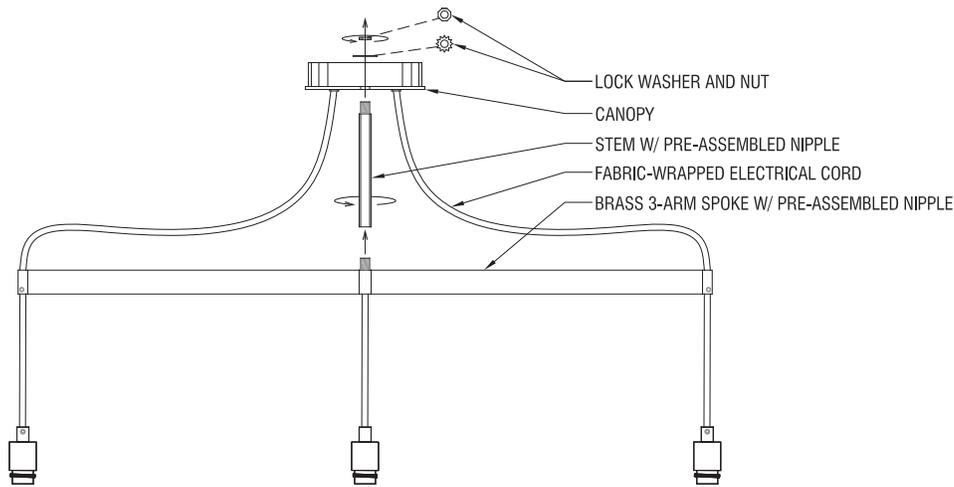

Figure 2. Assembling the fixture
- 3 Thread the open, female threaded end of the stem onto the nipple at the top of center of the 3-arm part (Figure 2).